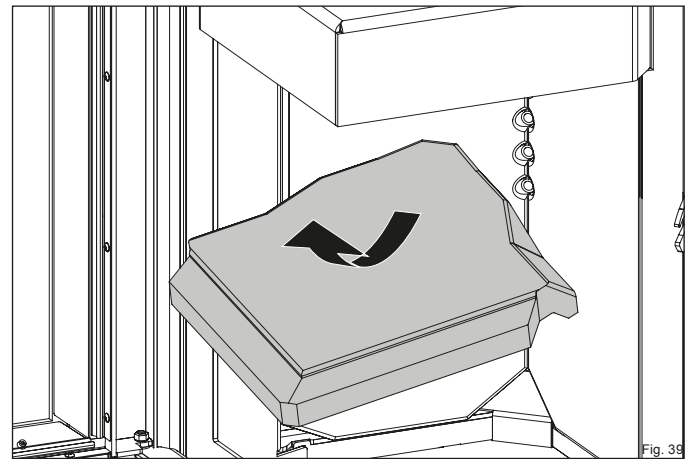

Fig. 39
- ▶ Carefully remove the top firebrick from the firebox (Figure 39).